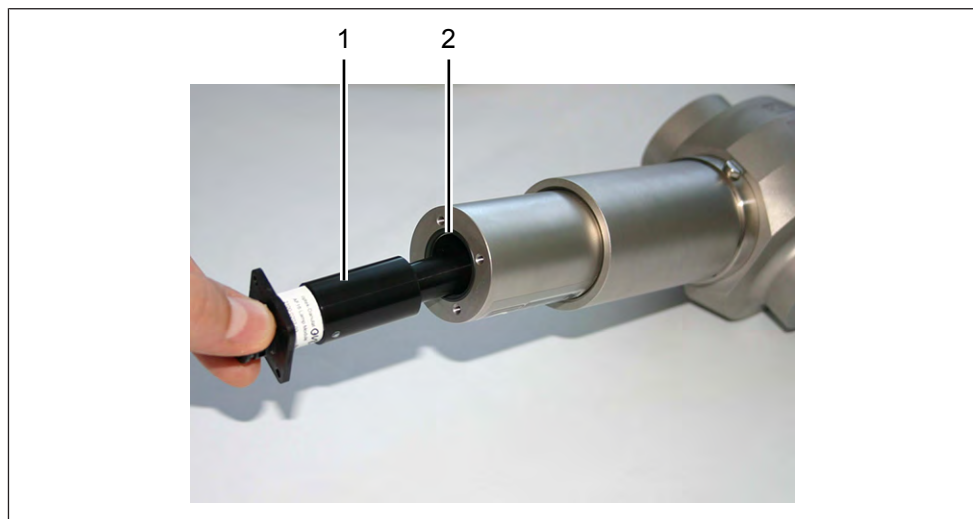

Fig. 15: Exchange of the lamp module
4. Pull out the lamp module (1 in Fig. 15).
5. Check if there is an O-ring (2) for the lamp module.